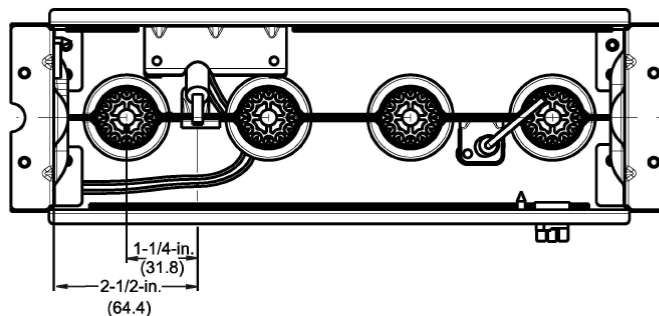

**Fig. 8 – Mixer Screw Location**
**NOTE:** Each burner contains a mixer screw that must be removed. Refer to Fig. 8 for the mixer screw location.